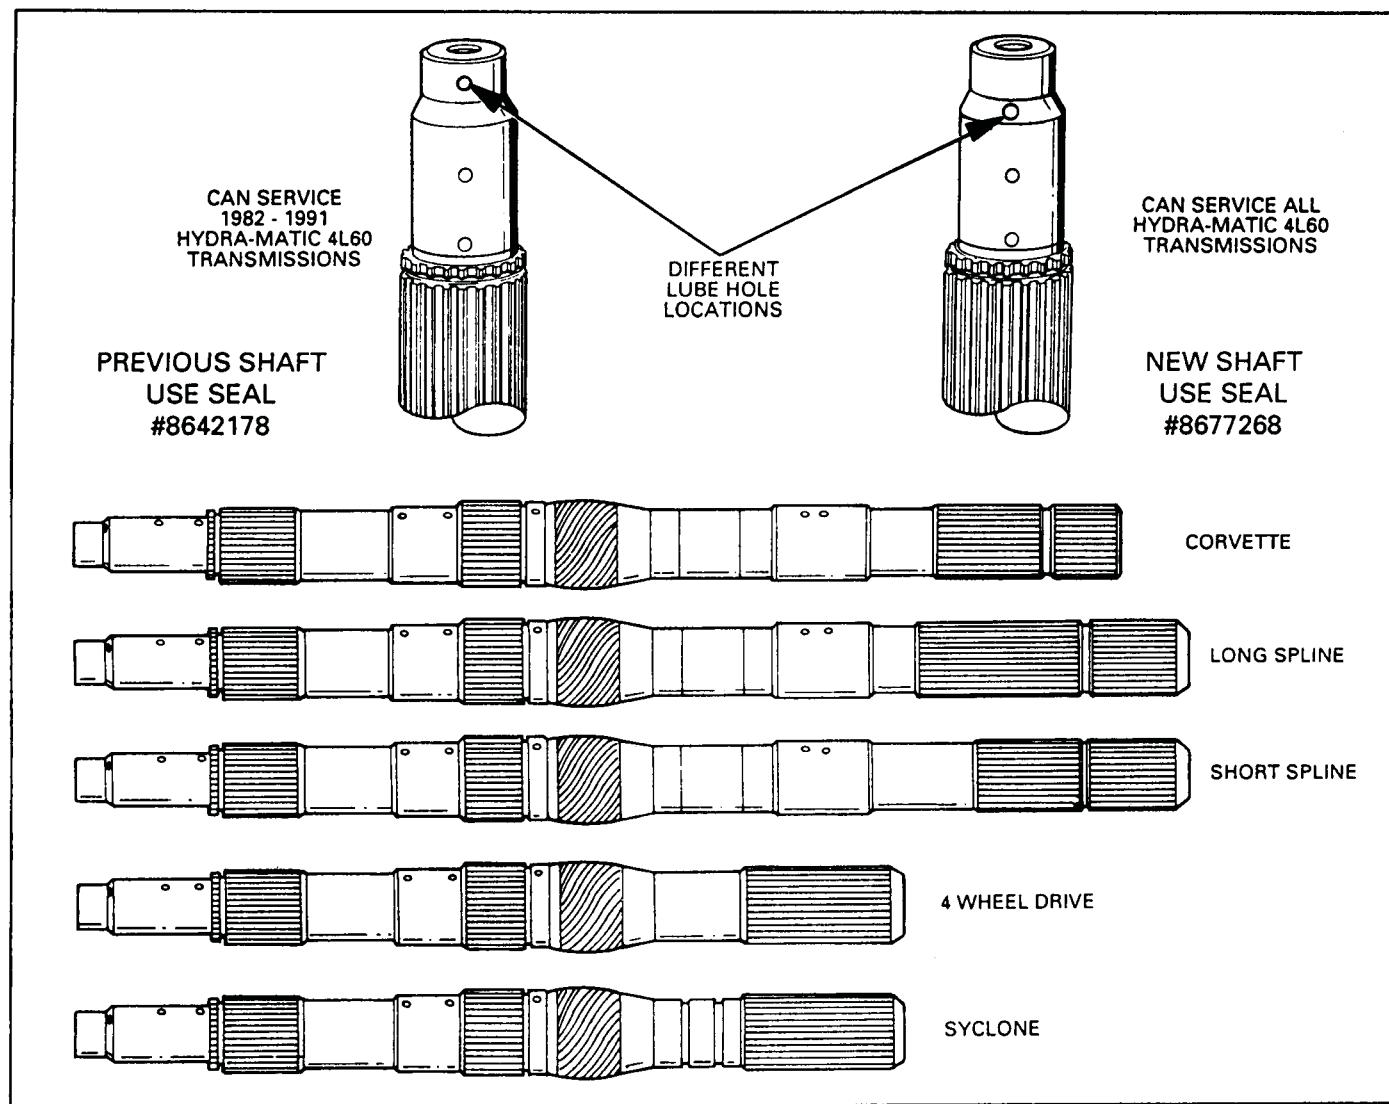

Figure 100
- 5. Identify output shaft using Figure 100 and install output shaft into transmission by rotating to index the shaft splines with the mating parts.